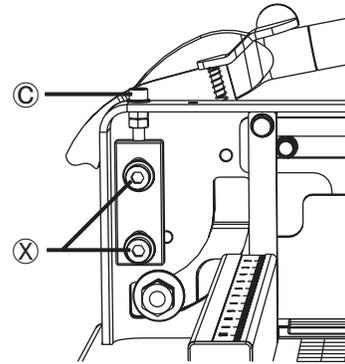

Figure 6
5. Loosen both blade holding bolts ⑧ as shown in figure 6, with the bigger allen wrench included with the machine.
6. Adjust the blade adjustment screw ③ with the smaller allen wrench included with the machine.